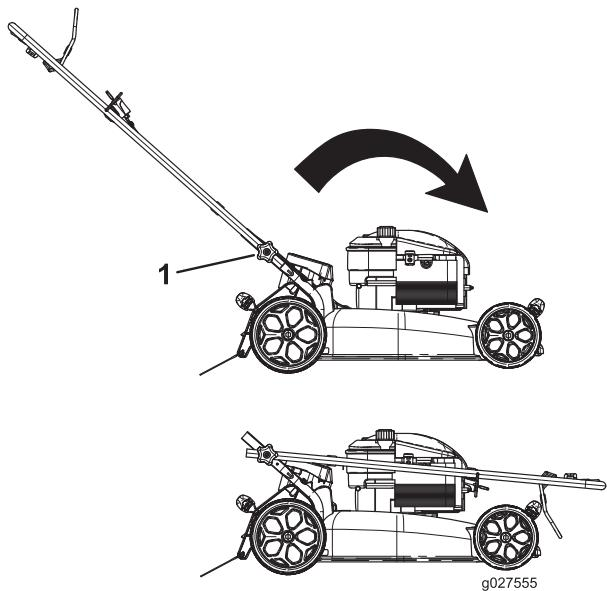

Figure 32
1. Handle knob (2)
2. Move the handle forward as shown in Figure 32.
1. Loosen the handle knobs until you can move the handle freely (Figure 32).